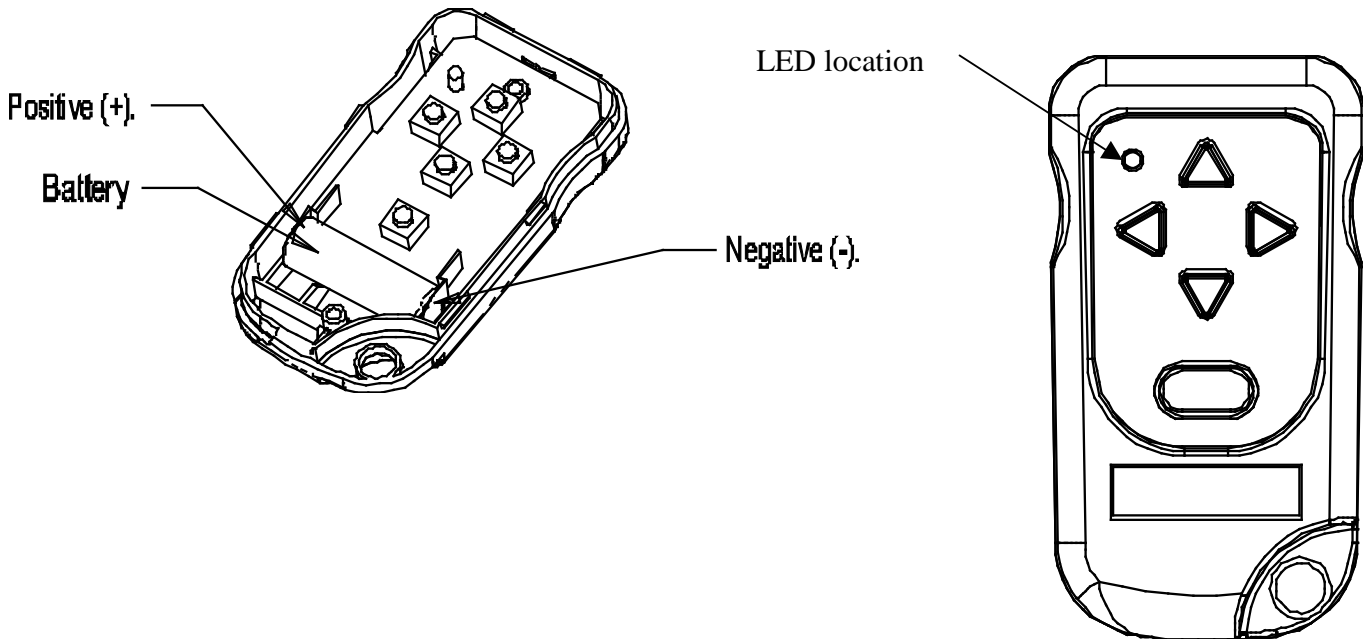

FIGURE 1
- (1) Remove any static charges from your body by touching a metal grounded object.
- (2) Remove Transmitter from console mounting bracket, by slightly bending the tab back to release the transmitter from the bracket.
- (3) Remove the two screws on the back of the transmitter with a Philips screwdriver. With a coin, lightly pry open the transmitter case using the slot in the bottom corner opposite of the key ring hole.
- (4) Carefully separate the case halves. See illustration for disassembly below.
- (5) Place the 12 Volt Alkaline A23 battery in location per Figure 1 below paying close attention to the + / - orientation.
- (6) Make sure membrane and top cover is re- assembled correctly with buttons protruding fully.
- (7) Carefully snap top cover / membrane on to lower assembly. It should only take light pressure to snap in place.
- (8) Test battery connection by pressing any of the buttons. When doing so, the red LED indicator should turn on in the upper left hand corner. If the LED does not illuminate, separate the covers and check the battery polarity, if correct replace with another battery. SEE FIGURE 1 BELOW.
- J. Test battery connection by pressing any of the buttons. When doing so, the red LED indicator should turn on in the upper left hand corner. If the LED does not illuminate, separate the covers and check the battery polarity. If correct, replace with another battery. See Figure 1 in section titled "Installing Transmitter Battery".